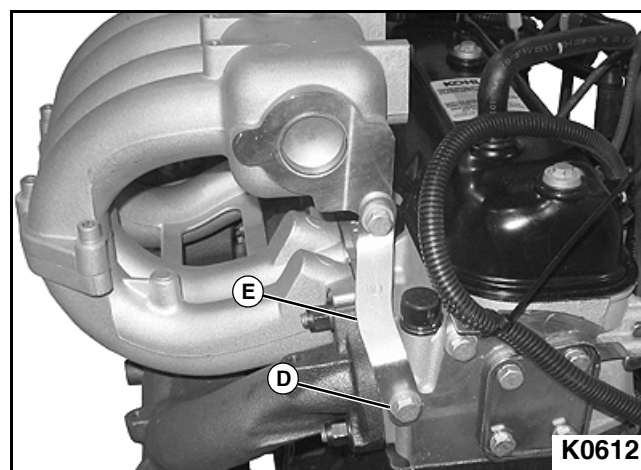

Figure 3-65
3. Remove bolt, flat washer, and lock washer (D) from intake manifold-to-cylinder head mounting bracket (E). **See Figure 3-65.**